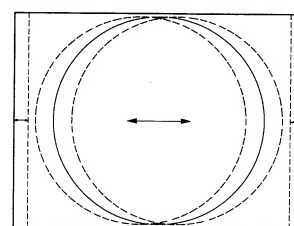

fig. 1
- d) Adjust the horizontal phase to obtain a position where no horizontal blanking appears on either side (fig. 1).